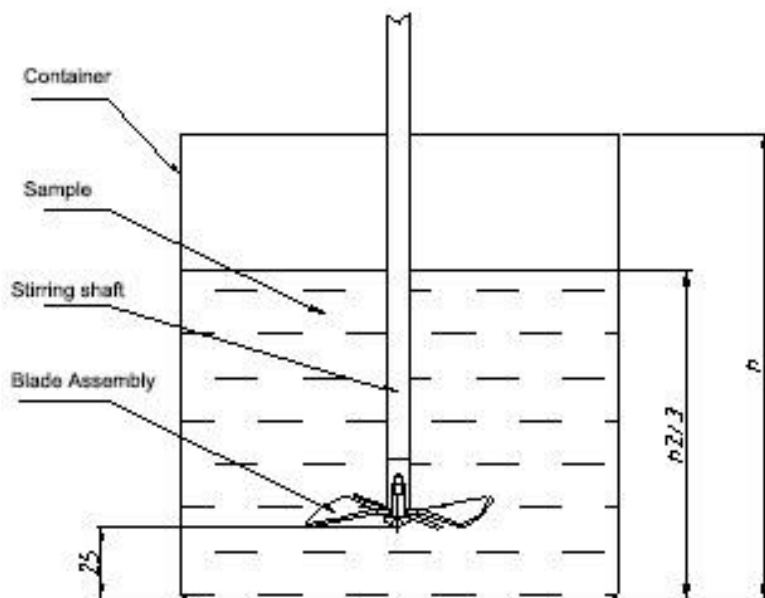

Fig 4
4. Pour the sample into the selected cup. The volume of the sample should not exceed the $\frac{2}{3}$ total height of the cup lest the sample overflows when stirring. Referring to the fig 4.
5. Adjust the motor stirrer to proper place according to the need, then screw up the manual controlling adjuster. Normally, the stirring axis is in the middle of the cup and the stirring vane is about 25mm to the bottom. Referring to the fig 4